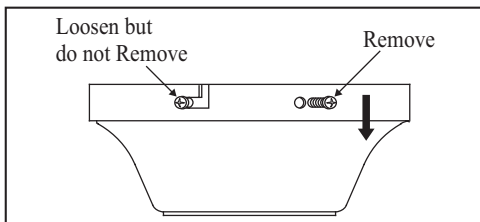

Figure 6
2. Remove the mounting bracket from the canopy by loosening the four screws on the top of the canopy. Remove the two non-slotted screws and loosen the slotted screws (Figure 6).
- Remove the mounting bracket from the canopy by loosening the four screws on the top of the canopy. Remove the two non-slotted screws and loosen the slotted screws (Figure 6).